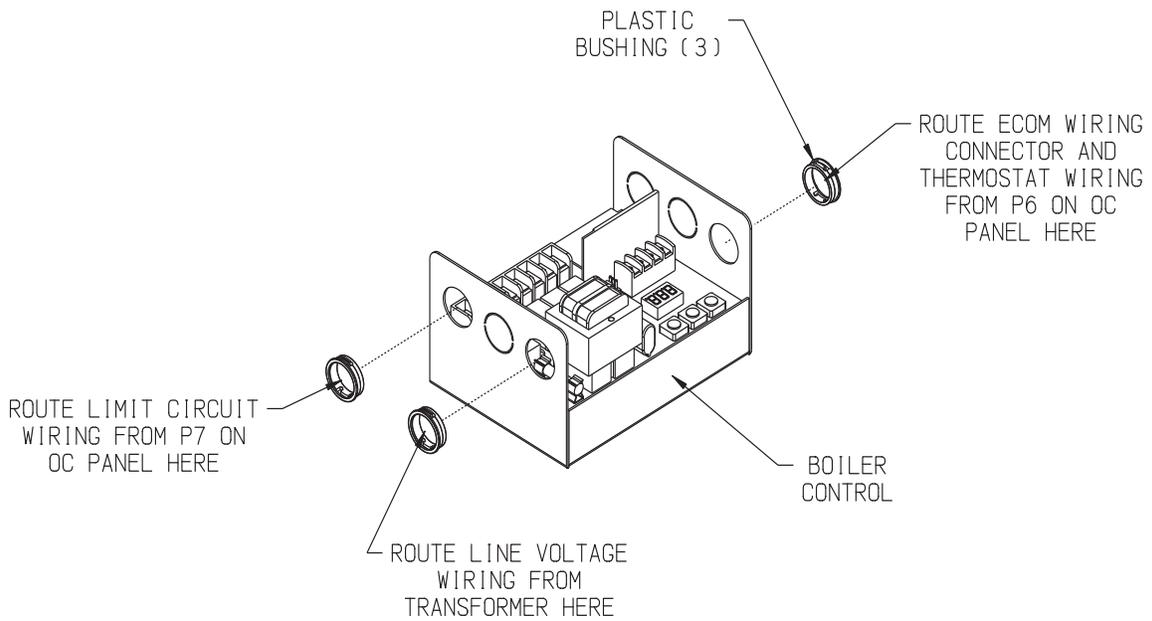

FIGURE 5: FWZ BOILER CONTROL WIRE ROUTING
6. Refer to Figure 5 for wire routing to the boiler control.